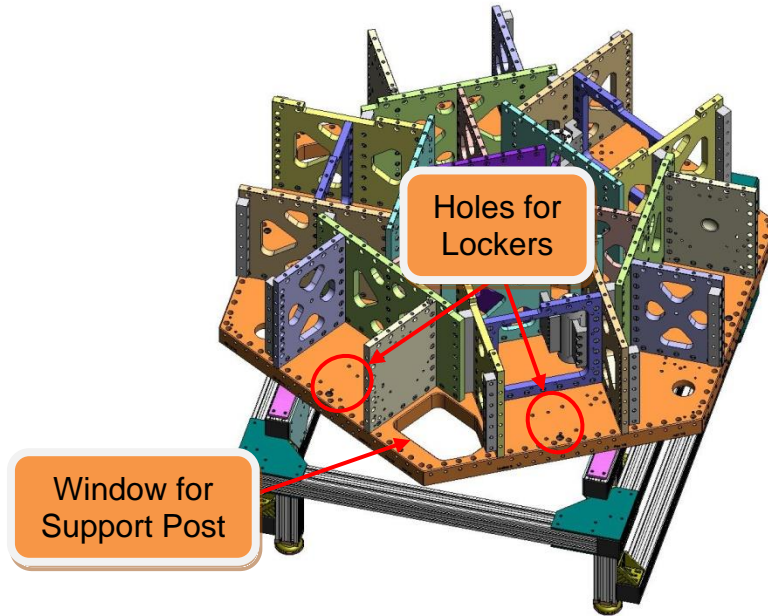
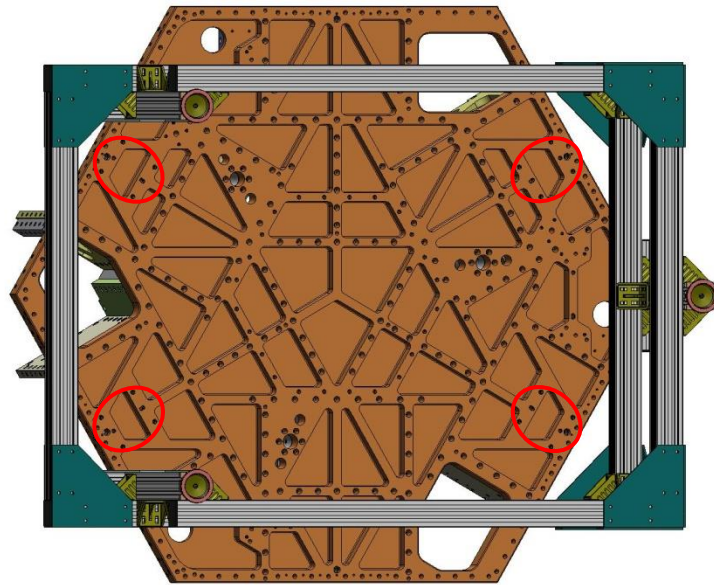

Figure 3.50. Rotate Stage 1 Assembly, to the orientation shown here. Note the location of the holes for the Locker Assemblies.
Figure 3.51. Bottom view of the Stage 1 Assembly, after rotation. Note the location of the (4) sets of Locker Assembly mounting holes.
- Lift the (partially built) **Stage 1 Assembly** (D0900154) and rotate to the orientation shown in Figure 3.50 and Figure 3.51. This will allow access for bolting on the **Locker Assemblies** (D071450), later in the procedure.